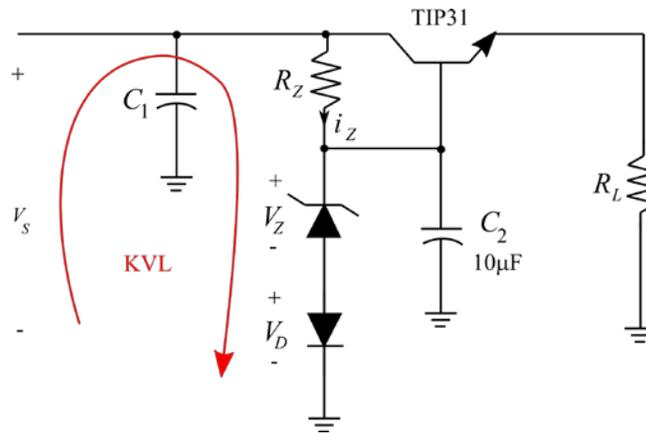

Figure 2: KVL loop to determine  $R_Z$ .
4. Assuming the maximum base current is supplied, **calculate the value needed for  $R_Z$  that will allow at least 10% of  $I_{z(max)}$  to flow through the Zener.** This will ensure that the Zener draws enough current to stay in regulation (i.e., over the “knee”), even when output current is maximum.  $R_Z$  can be determined by taking the voltage loop shown in Figure 2, and solving for  $R_Z$ .